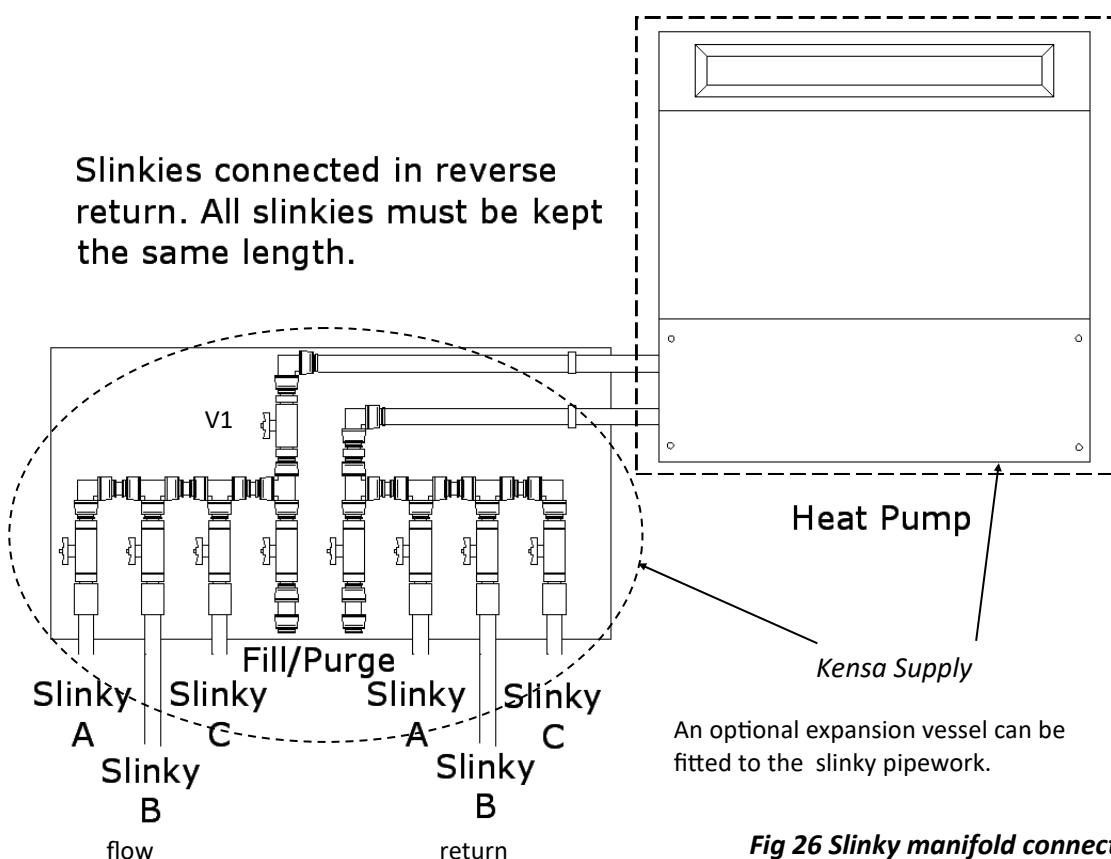

Fig 26 Slinky manifold connections
- iii. Place a filter such as a kitchen sieve over the pipe returning water to the dustbin so any debris will be captured. Ensure all valves are closed including the heat pump valve V1. Open the valves on the manifold in the following order (refer to above diagram Fig 26) :-